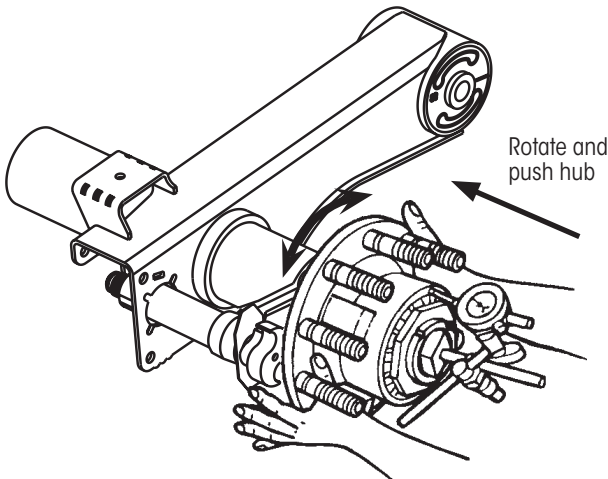

Figure 5: Checking inward end-play
NOTE: A reasonable assessment can be performed without removing tires and rims. However, this procedure is best performed with hub only as shown in Figure 5 on page 8.
8. Grasp hub flange, as shown in Figure 5, and **push** the hub inward **while rotating** hub slightly in both directions (between two hub cap fastener holes) until the dial indicator reading remains constant. **Record** reading.